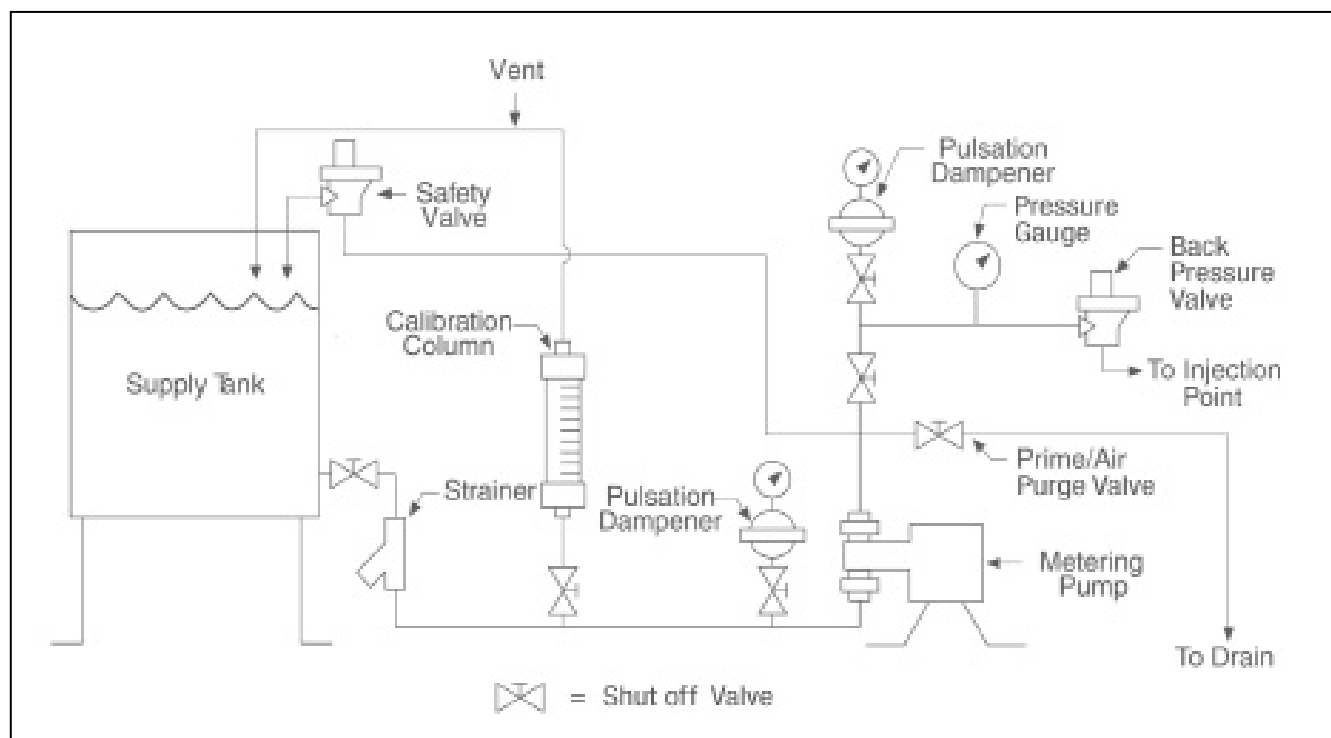

Figure 4. Typical Recommended Pump Installation Scheme
- See Figure 4 for a typical recommended pump installation scheme.
Install the safety valve in the discharge line between the pump and the nearest shut-off valve. (This will prevent pump damage from accidental valve closure.) Pipe the safety valve outlet back to the suction tank or to drain, but in either case ensure that the pipe end is continuously visible so safety valve leakage may be detected. Milton Roy safety valves must be installed at top of supply tank in order to function properly (*see Figure 4*).
Provide shut-OFF valves in both suction and discharge lines next to the pump. Locate discharge line shut-OFF valve downstream from the inlet connection of the safety valve. *Figure 4* shows recommended valve locations.